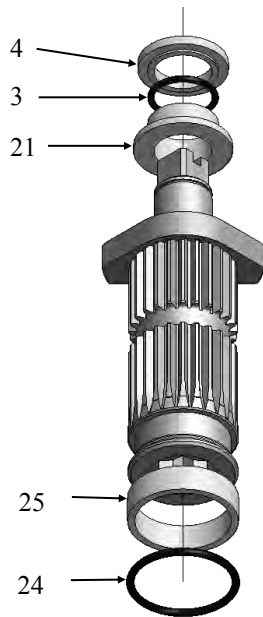

Fig. 8.1
- c. Pinion O-Rings: of the remaining O-Rings, the largest is installed in the lower pinion O-Ring groove (#24 fig. 8.1). The second largest is installed on the top of the pinion (#3 fig. 8.1).
- b. Thrust Bearing (#5 fig. 8.1)